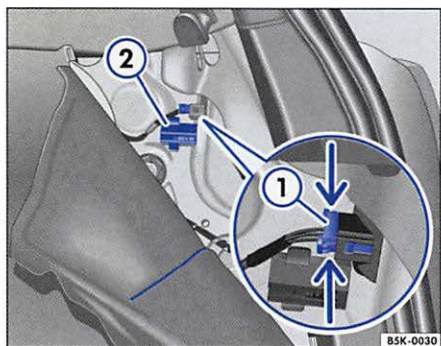

Fig. 197 To the side in the luggage compartment: Removing the taillight. ① Pulling off connector, ② Securing screw.
3. Reach into the opening of the side interior trim of the luggage compartment (slot ⇒ fig. 197) and pull the trim forward.
4. Squeeze the release of the connector ① together in the direction of the arrows and pull the connector off.
5. Unscrew the securing screw by hand ②.
12. Hold the taillight with one hand in the installation position and with the other hand, tighten the securing screw ⇒ fig. 197 ②.
14. Attach the connector ⇒ page 350, fig. 197 ① to the bulb holder.